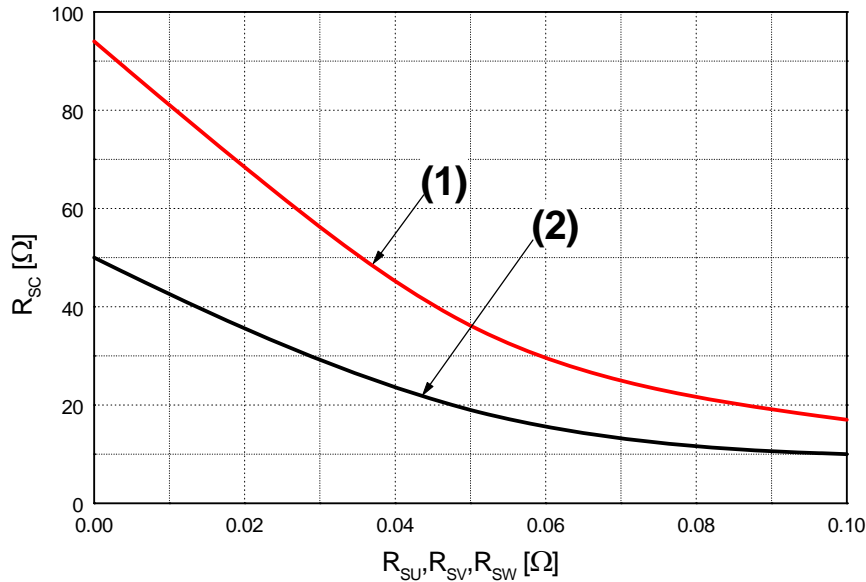

Figure 6. R_{SC} Variation by Change of Shunt Resistors (R_{SU}, R_{SV}, R_{SW}) for Short-Circuit Protection
- Short-circuit protection is functioning only at the low-sides. It would be recommended that the value of the external sensing resistor (R_{SC}) should be selected around 50 Ω in order to make the SC trip-level of about 22.5A at the shunt resistors (R_{SU}, R_{SV}, R_{SW}) of 0 Ω . For the detailed information about the relationship between the external sensing resistor (R_{SC}) and the shunt resistors (R_{SU}, R_{SV}, R_{SW}), please see Figure 6.